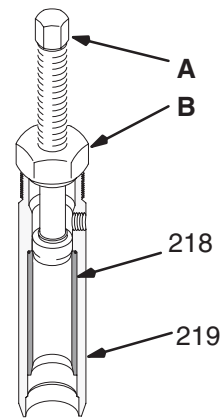

Fig. 26
- Screw the large nut (B) of the tool into the top of the cylinder (19). Screw down the rod (A) to push the sleeve out. Remove the tool. See Fig. 26.